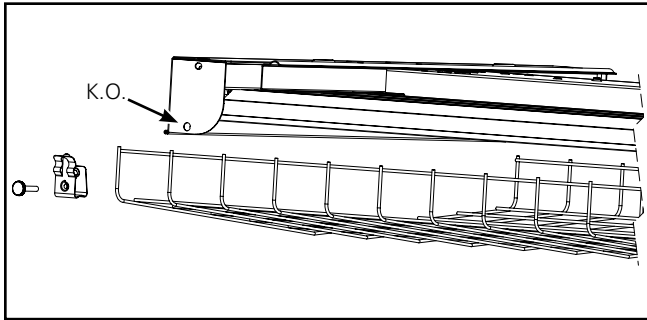

Figure 1.
1. Knockout pre-punched holes (4 holes total) (Figure 1.).